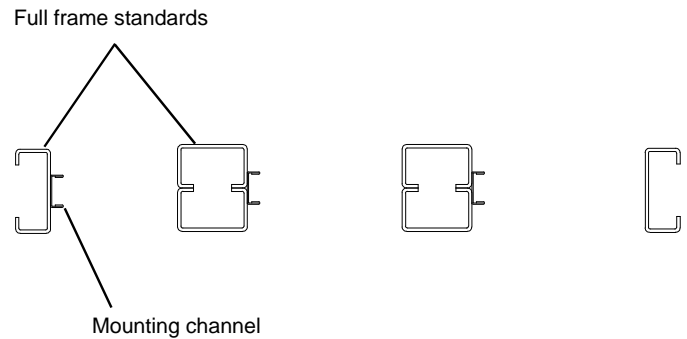

Figure 1
1. Attach a single Steel Mounting Channel to the left or right side of each Full Frame section. See **Figure 1**.